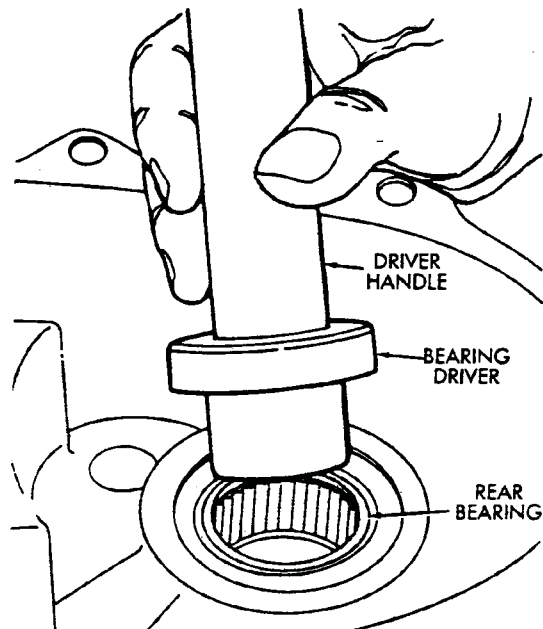

Fig. 4-31 Installing Front Output Shaft Rear Bearing
10. Install the new front output shaft rear bearing with bearing driver tools (Fig. 4-31).